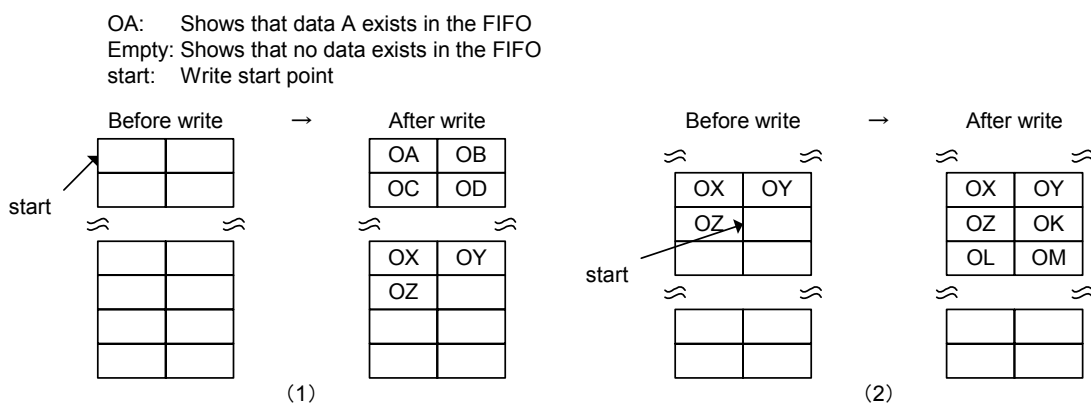

Figure 6-25 FIFO Write Processing (Normal Operations)
If odd number data is found to be present after data is written wordwise from a byte-boundary nonexistent state by setting the EPrFIFO_Clr.EPx{x=a-c}FIFO_Clr bit and making other necessary settings, make sure that only the last byte of consecutive data (i.e., data Z) is written to the High side. This state is shown in (1) of Figure 6-25. The data is output from the USB in order of A, B, C, D, ... X, Y, and Z.
To write data while the FIFO has a byte boundary in it, first write data to the Low side (writing of data K) in order to eliminate the byte boundary, and then write data wordwise (data L and M). This state is shown in (2) of Figure 6-25.